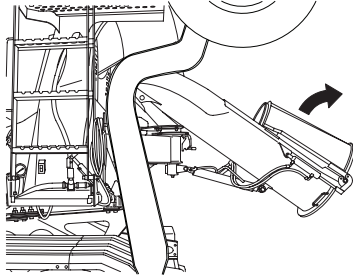

Figure 130
2. Grip the fold-over chute using the correct hand-holds (Figure 130).